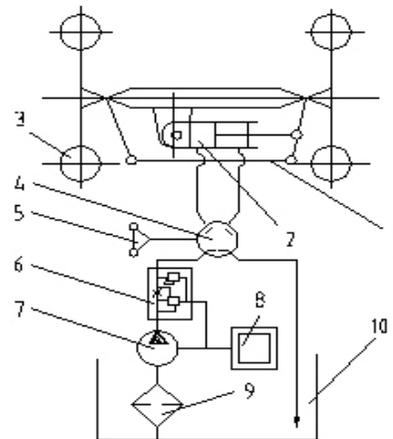

Fig. 5.7 Working Principle of the full hydraulic steering gears
5.6.1 Working Principle and Operation of the Full Hydraulic Steering Gear (See Fig. 5-7)